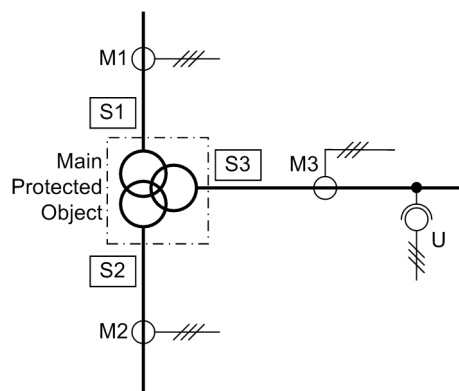

Figure 2-4 Example of a topology on a three-winding transformer
Of course, the number of sides can be equal to the number of measuring locations (but never greater). The example in Figure 2-4 shows a three-winding power transformer with one set of current transformers at each side. In this example: **No AssigMeasLoc** = 3 and **NUMBER OF SIDES** = 3.
- **M1, M2, M3**, i.e. the **3** measuring locations are assigned: M1 to side S1, M2 to side S2, M3 to side S3. This corresponds to the examples in figures 2-4 and 2-6, 2-7.